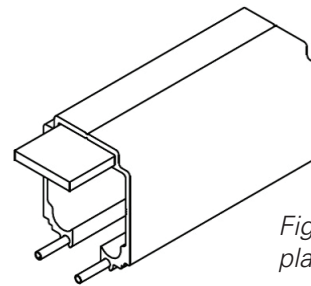

Figure 2: Track with pins and plate for alignment
- Join the straight track with the curve using pins and plate as shown in Figure 2.
- Align the tracks using pins and plate as shown in figure 2 before securing the track with screws.